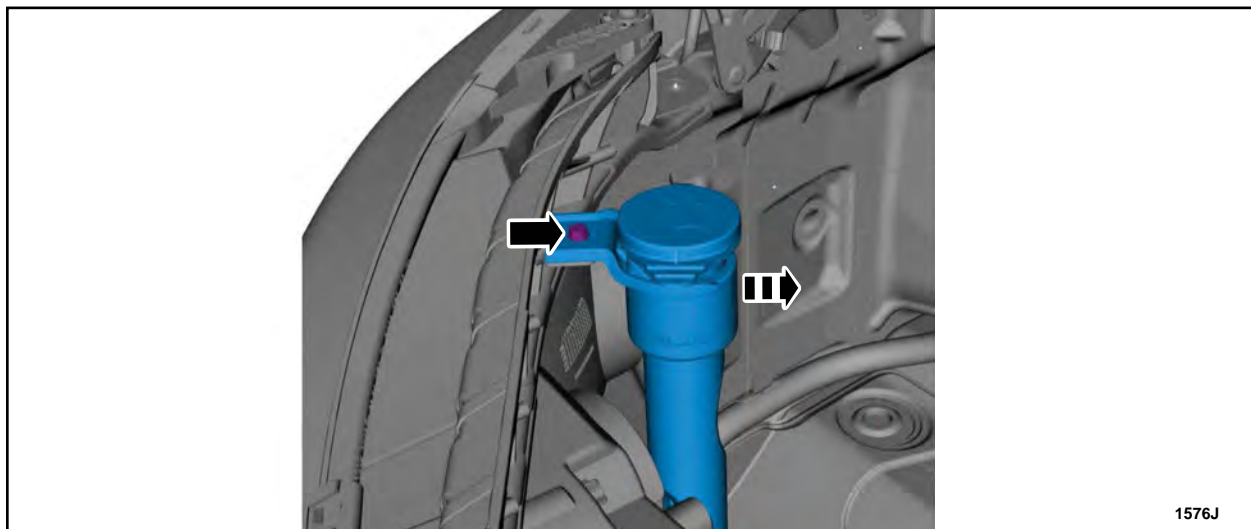

FIGURE 4
5. Remove the bolt and position aside the windshield washer reservoir filler neck. See Figure 4.
16. Reposition the windshield washer reservoir filler neck and install the bolt. See Figure 4.